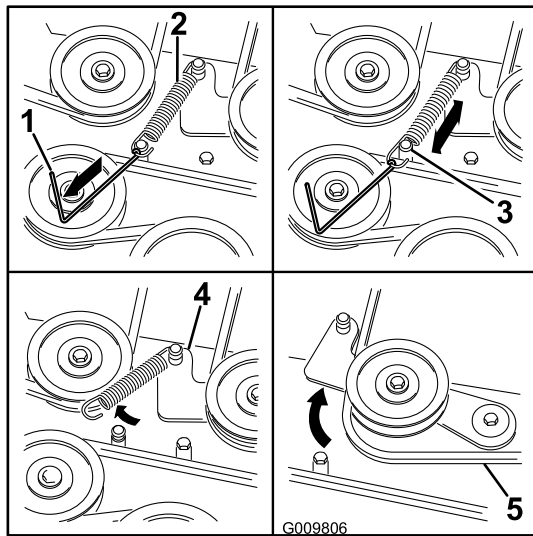

Figure 64
- Using a spring removal tool, (Toro part no. 92-5771), remove the idler spring from the deck post to remove tension on the idler pulley (Figure 64).
- Install the new belt around the mower pulleys and the clutch pulley under the engine (Figure 64).
- Using a spring removal tool, (Toro part no. 92-5771), install the idler spring over the deck post and placing tension on the idler pulley and mower belt (Figure 64).